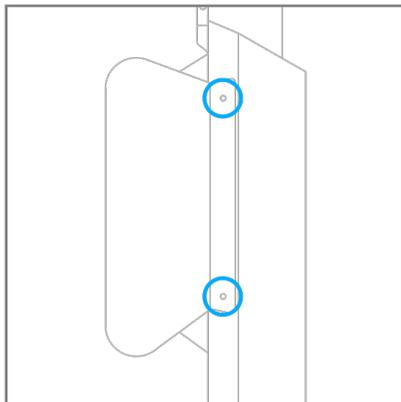

Figure 12.
Step 2: Attach the hand sanitizer mounting plate with the two previously removed screws (Figure 12.).